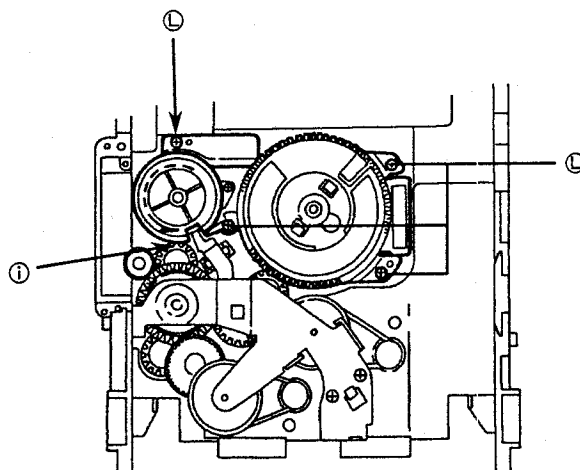

Fig. 35
3. Remove the drive unit and cylinder gear. (See Fig. 35.)